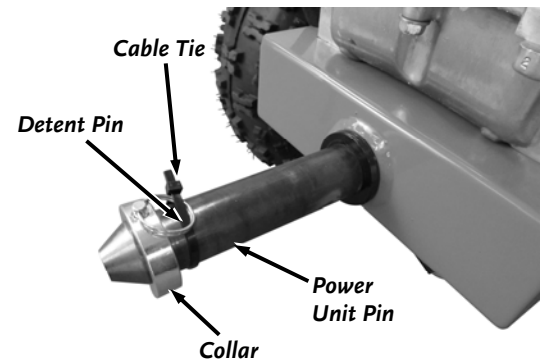

Figure 3
1. Cut Cable Tie and remove Detent Pin and Collar from Power Unit (**Figure 3**).